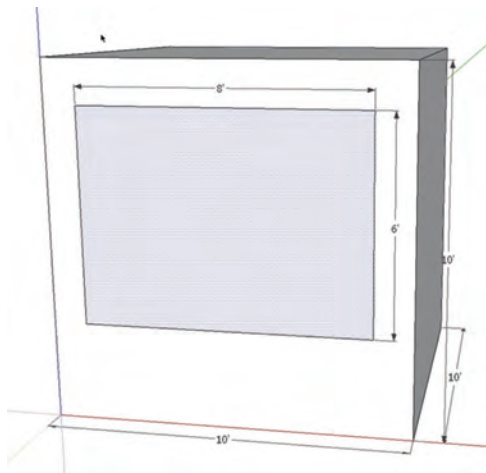

Fig. 9-5: Creating a Window component on the 10' × 10' × 10' cube
1. Create a 10' × 10' × 10' cube (Fig. 9-5).
2. On one of the vertical faces, draw a rectangle 8' wide × 6' high (Fig. 9-5).